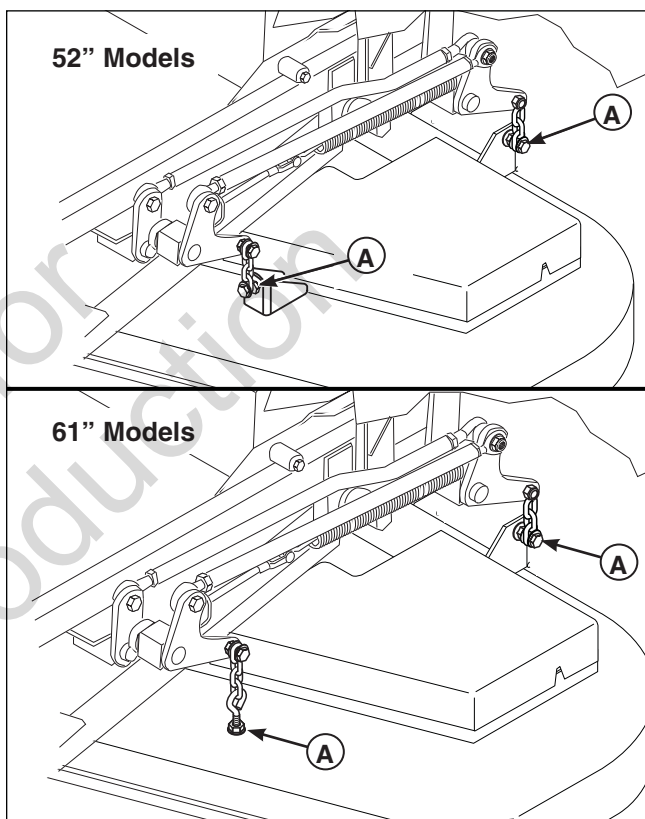

Figure 50. Hanger Chain Adjustment
4. 52" Rear Discharge & 61" Rear Discharge: Adjust the front eyebolts until the chains are tight and the deck is still resting on the 2 x 4's. Tighten jam nuts. See Figure 50.
- 4a. 52" Side Discharge: Loosen the nuts and allow the front of the deck to rest of the 2 x 4's. Slide the chains down in the slots until the chains are tight and tighten the nuts. See Figure 50.
5. Loosen the nuts and allow the rear of the deck to rest on the 2 x 4's and 1/4" spacers. Slide the chains down in the slots until the chains are tight and tighten the nuts. See Figure 50.